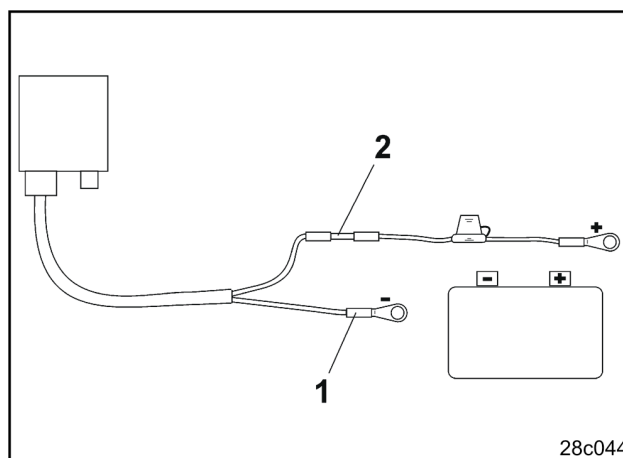

Fig. 6
- Insert the blue cable (earth cable) into the loose ring tongue (Fig. 6/1).
- Insert the brown cable (+ 12 Volt) into the free butt joint (Fig. 6/2).
- Shrink the casing over the butt joint (Fig. 6/2) by using a heat source (lighter or hair dryer) until the adhesive escapes.